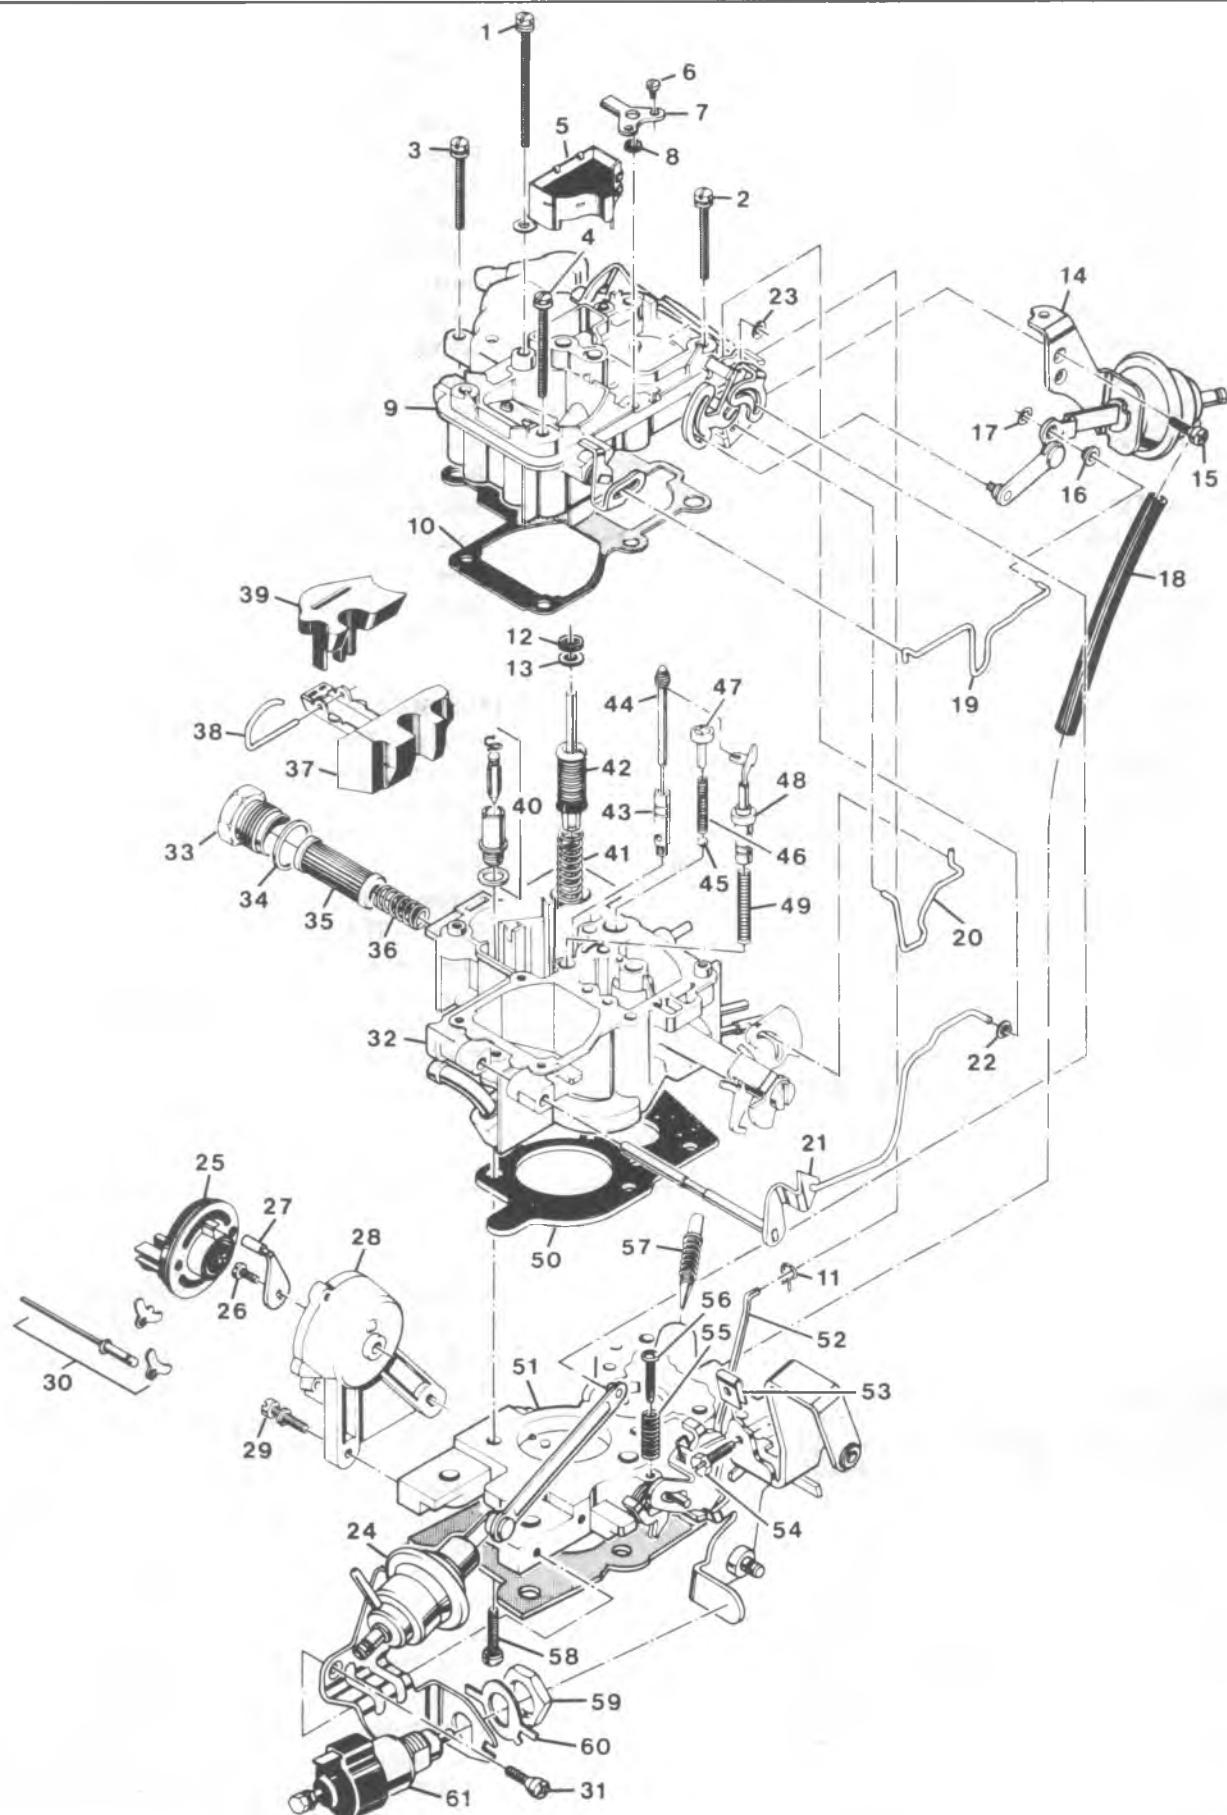

Fig. 6C2-6--Typical 2SE Carburetor Assembly
8. Remove the air horn to bowl attaching screws and lockwashers (Fig. 6C2-6). Remove vent and screen assembly.
1. Remove pump plunger stem seal by inverting air horn and use a small screwdriver to remove staking holding the seal retainer in place. Remove and discard retainer and seal (Fig. 6C2-7).